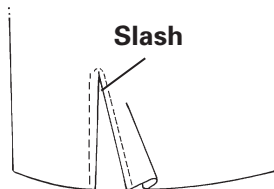

Fig. 11-2
3. Slash the fabric between the reinforcement stitching lines, cutting up to, but not through, the stitches. (Fig. 11-2)